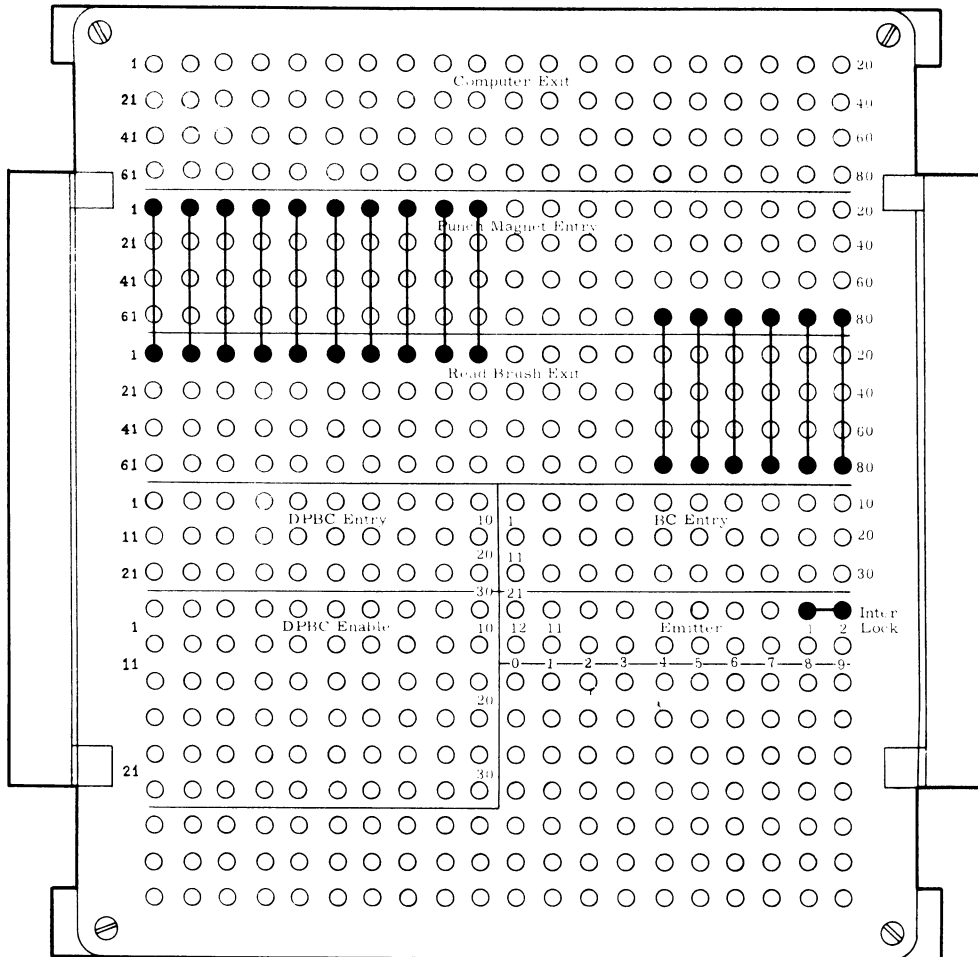

Figure 39. Plugboard Wiring for Gang Punching
- For off-line operation, always wire from the READ BRUSH EXIT hubs to the PUNCH MAGNETIC ENTRY hubs. (COMPUTER EXIT hubs are not used during an off-line operation.) Figure 39 illustrates the plugboard wiring for duplication of card information from the first eight columns of the header card onto the succeeding card. To duplicate the information from all 80 columns of the header card, all 80 hubs must be wired.